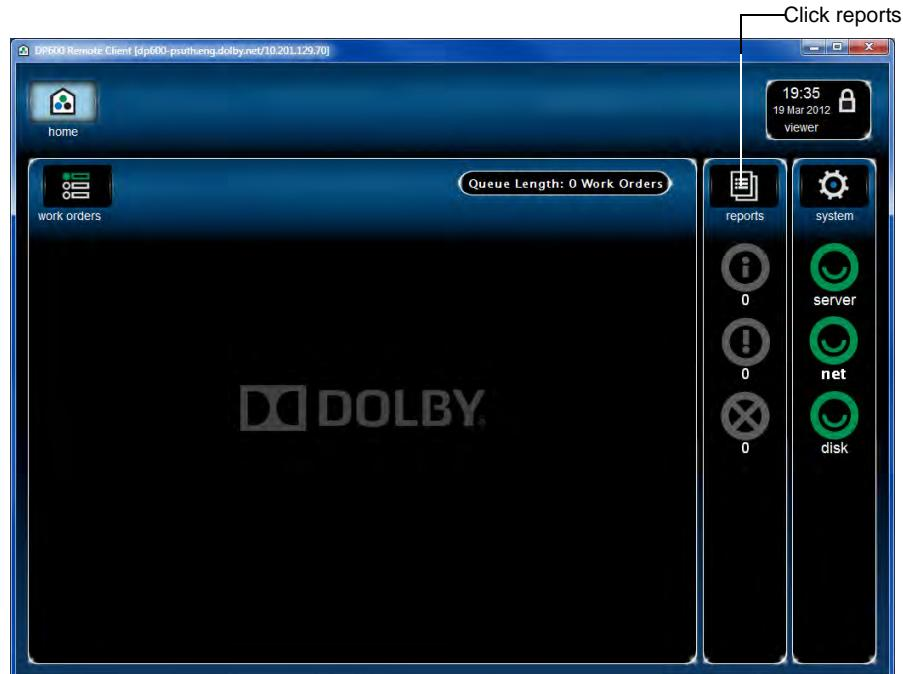

Figure 2-58 Click Reports in Home Screen
1. Press or click the **reports** icon in the **home** screen, as shown in Figure 2-58.